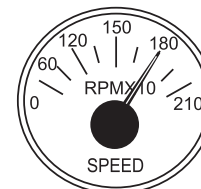

Figure 38. Engine Tachometer Gauge
14. The **tachometer gauge** (Figure 38) will indicate the speed of the engine when the generator is operating. Under normal operating conditions, this speed is approximately 1,800 rpm.